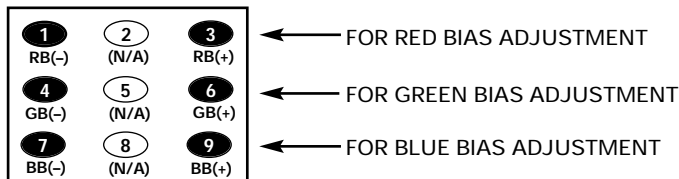

Figure 5. Remote Control Number keys' functions in Service Menu NO. A9 (No Vertical Sweep)
10. Raise each Bias Level with 3, 6, and 9 keys to obtain just visible white line. See Figure 5.